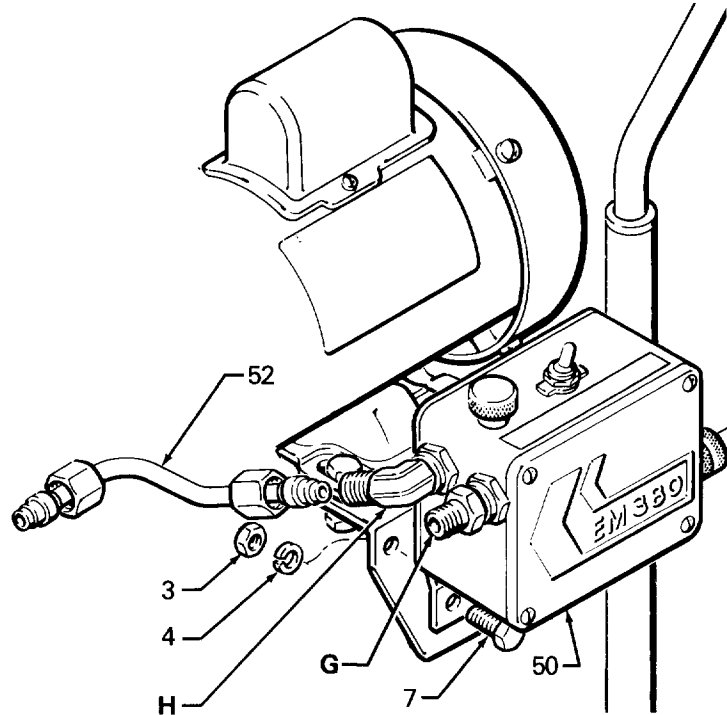

Fig 23
Disconnect tube (52) from elbow (H). See Fig 23.